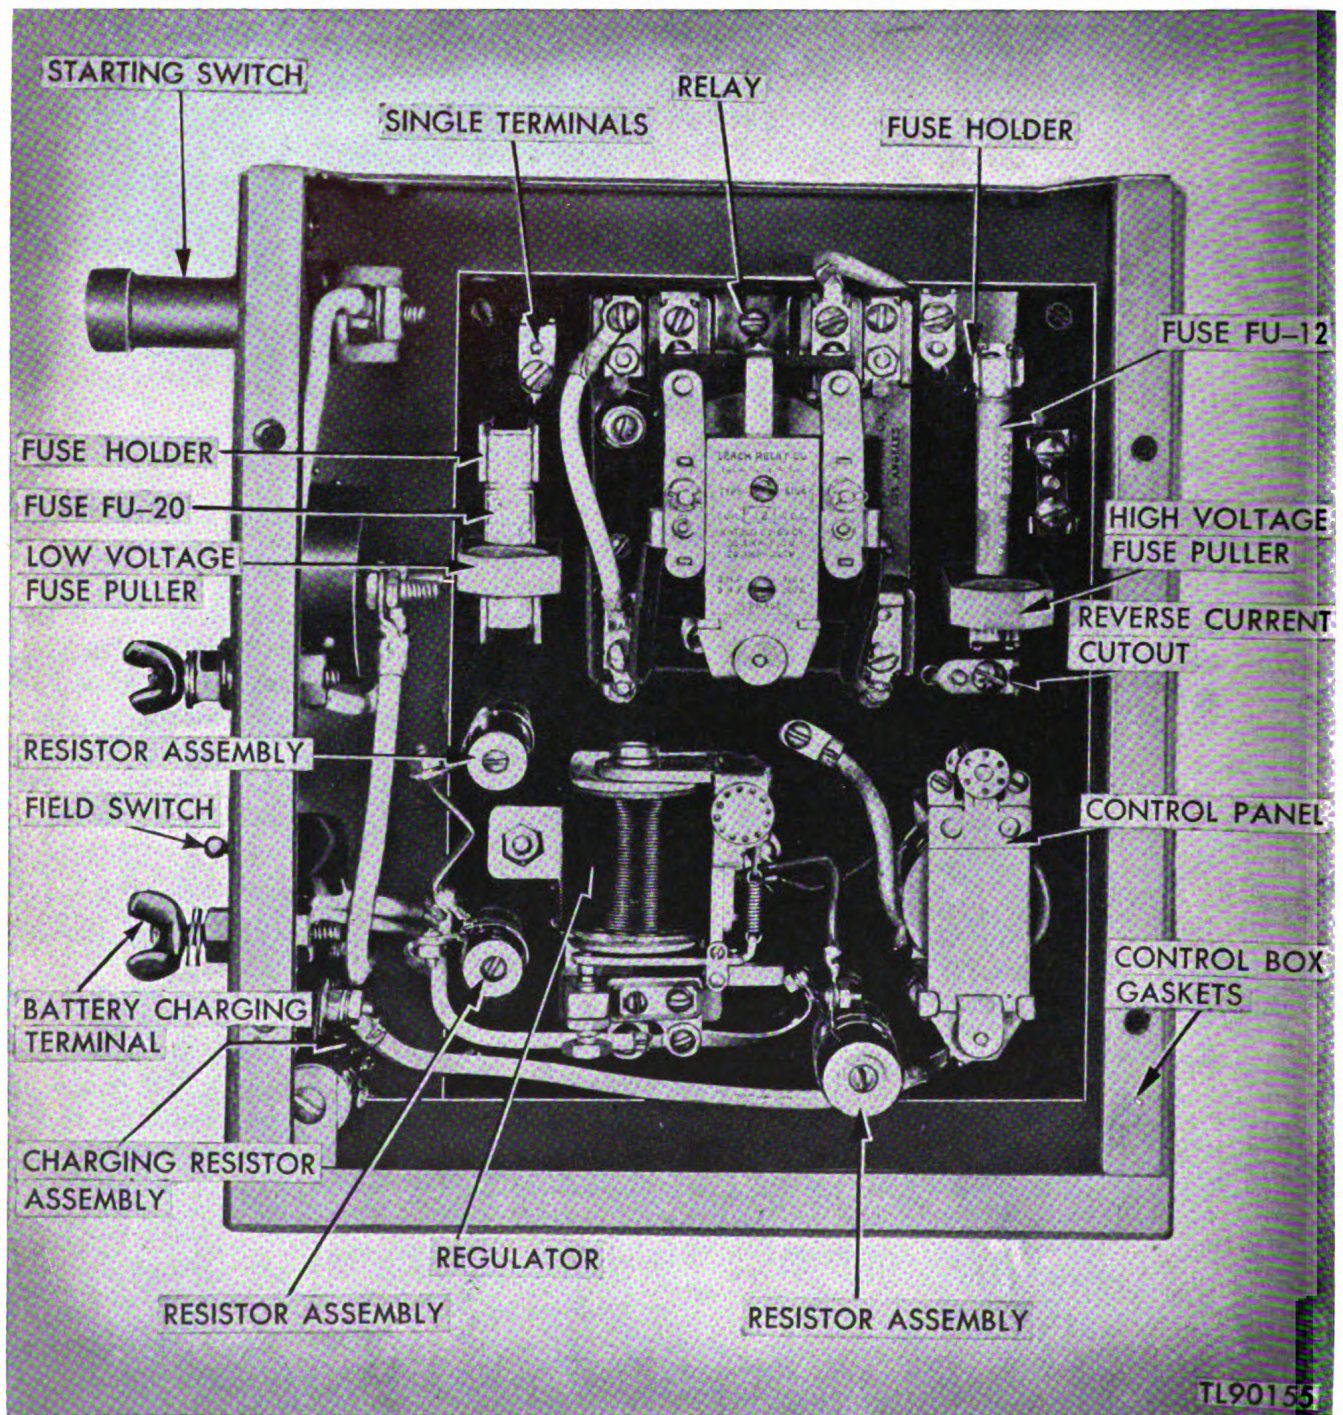

Figure 44. Control box for Power Unit PE-49-D—interior view.
(3) Remove lead from negative charging terminal (fig. 44) to filter box.
(4) Remove lead from low side of remote-control relay (fig. 44) to filter box.
(5) Remove lead from remote-control solenoid (fig. 44) to filter box.
(6) Remove lead from high-voltage terminal on remote control relay (fig. 44) to filter box.
(7) Remove negative high-voltage lead from terminal block to filter box.
(8) Remove lead from reverse-current relay (fig. 44) to battery-charging resistor.
(9) Remove lead A from generator to negative charging terminal. (See fig. 44.)
(10) Remove lead L from generator to low-voltage fuse clip. (See fig. 44.)
(11) Remove lead F from generator to field switch. (See fig. 44.)
(12) Remove lead S from generator to starter switch (See fig. 44.)
(13) Remove negative high-voltage lead from generator to connection block.
(14) Remove positive high-voltage lead from generator to fuse clip. (See fig. 44.)
(15) Remove lead from field switch to resistor. (See fig. 44.)
(16) Remove lead from negative charging terminal to filter capacitor (back of panel).
(17) Remove panel assembly (four screws) to be treated.